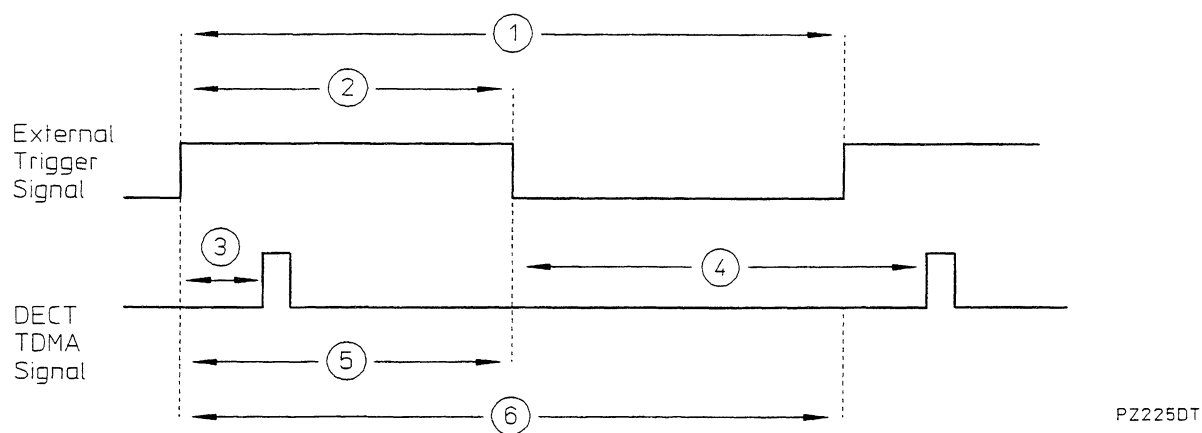

Figure 1-1. Relationship Between the External Trigger and the DECT Frame
- 4 Enter the trigger delay time value. If you selected positive edge triggering, this is the time from the positive edge of the trigger pulse to the start of the FP burst (see Figure 1-1). If you selected negative edge triggering, this is the time from the end of the FP period to the negative edge of the trigger pulse (see Figure 1-1). To enter the trigger delay time, press **TRIG DELAY**, enter the trigger delay time (in microseconds) by using the data keys, then press **μs**.